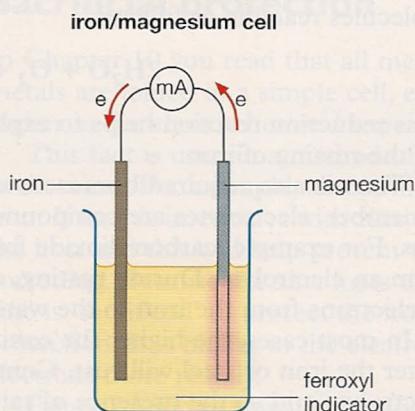

Figure 3.3 Iron in this cell does not rust
- Q1** Look at figure 3.3. In which direction would the electrons flow if the magnesium was replaced by copper?
In figure 3.3 there is no blue colour around the iron. It has not rusted. This is because electrons have been flowing *towards* the iron from the magnesium. Magnesium is higher than iron in the electrochemical series. The pink colour surrounding the magnesium shows the formation of  $\text{OH}^-$  ions.